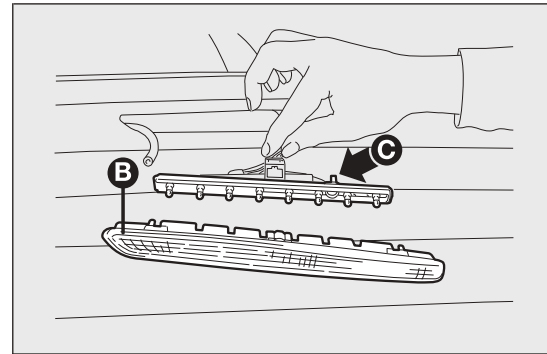

fig. 153
- extract the lens unit B fig. 153 and disconnect the electrical connector;
- press in the tabs C fig. 153 and remove the bulb holder;